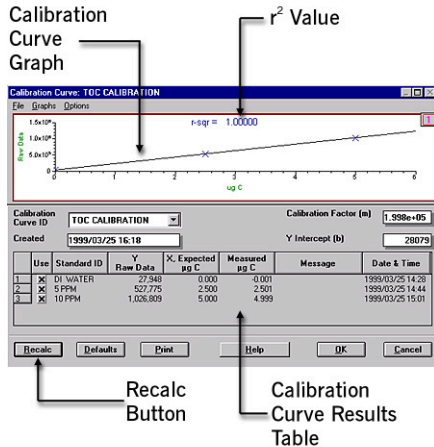

Figure 4.2.7 Calibration Curve
**Note:** You must repeat the Standard Calibration Analysis Setup (#3) and Start the Run (#4) for the two remaining Standard IDs (5 PPM and 10 PPM) in order to create a proper calibration curve (see Figure 4.2.7).
The Calibration Curve screen appears when the standard run ends (see Figure 4.2.7).